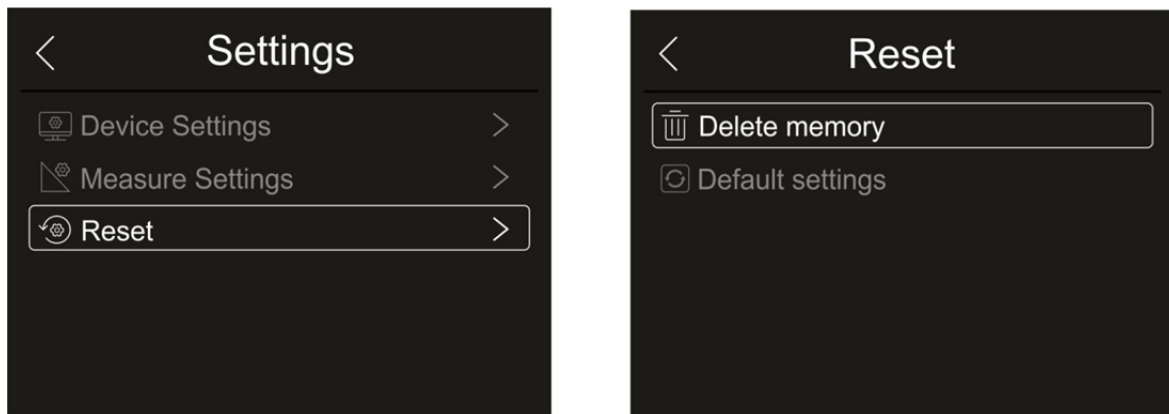

Fig. 30: Instrument reset menu
1. Touch the item "Reset". The screen in Fig. 30 – right side appears on the display. Touch the item "Delete memory". The following confirmation screen is displayed: